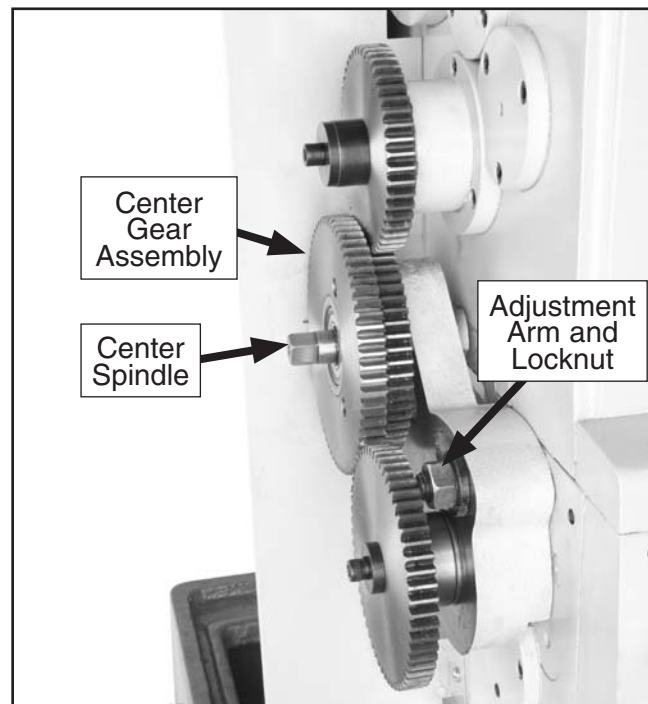

Figure 62. Center gear adjustment arm.
13. Using a 24mm wrench, loosen the adjustment arm locknut (**Figure 62**), and let the adjustment arm swing away.